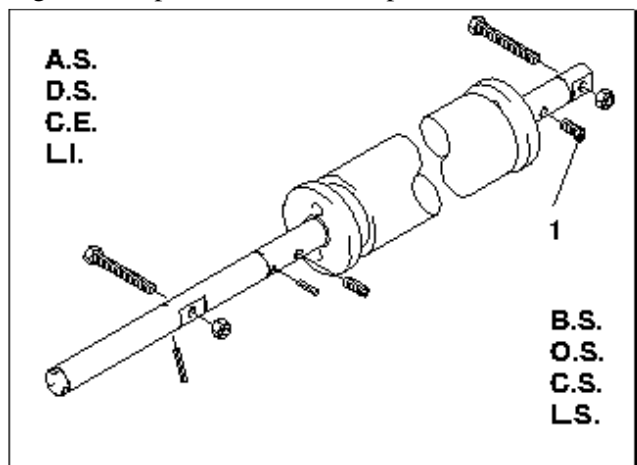

Fig. 13 Blanket washup device
5. Unscrew the grub screw (Fig. 13 /1) of the parallel adjustment.